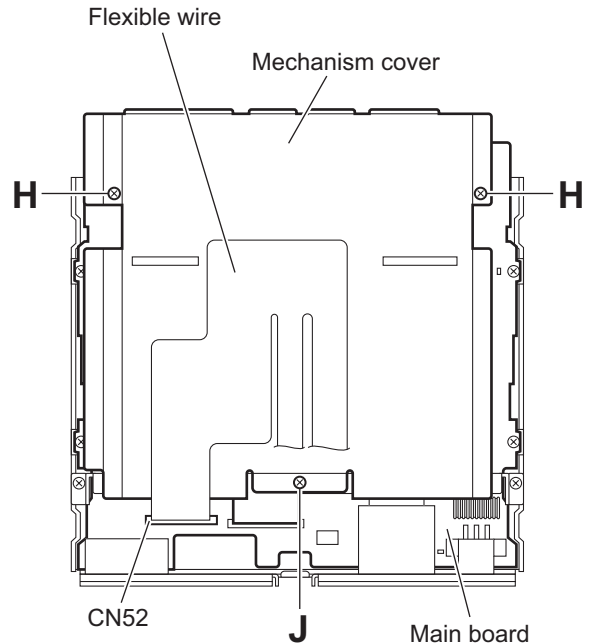

Fig.10
3.1.5 Removing the DVD mechanism assembly (See Figs.10 and 11)
- (1) From the top side of the main body, release the lock of the connector CN52 on the main board in an upward direction and disconnect the flexible wire. (See Fig.10.)
- (2) Remove the two screws **H** and screw **J** attaching the mechanism cover. (See Fig.10.)